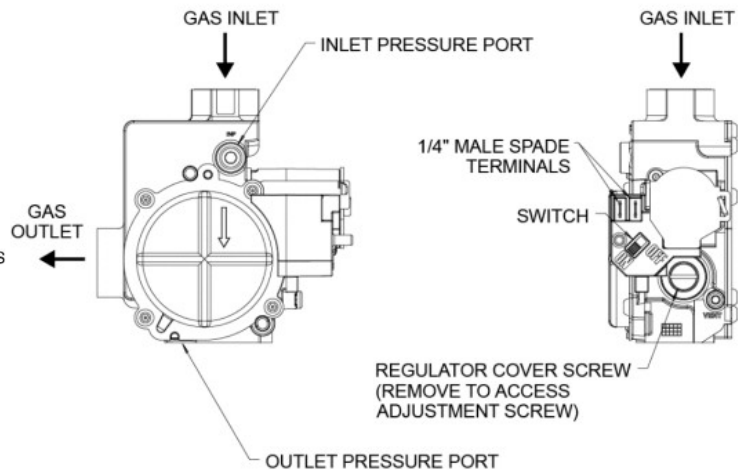

FIGURE 2
- 2) Remove the gas valve inlet pressure port plug using a 3/16" hex wrench. (refer to Figure 2)
- 2) Remove the gas valve outlet pressure port plug using a 3/16" hex wrench. **(Refer to Figure 2)**